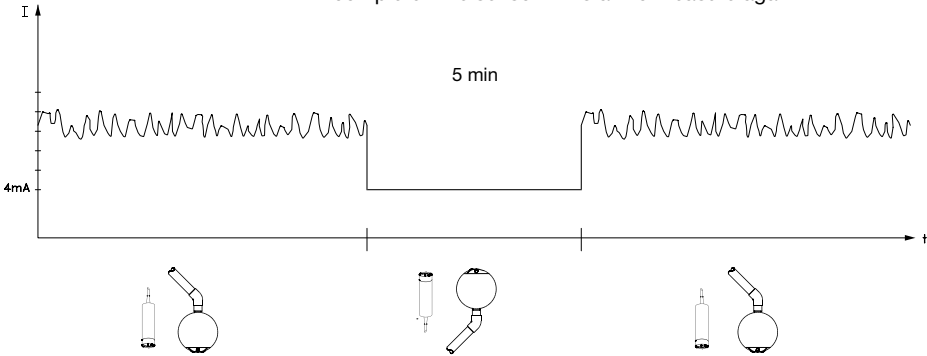

Fig. 15: Changes in the measurement signal before, during and after calibration
- Hold the sensor up in the atmosphere to calibrate (see Fig. 15). The sensor will emit a 4 mA signal throughout this phase and the DULCOMETER® D1C will display “0” ppm. In the calibration menu of the DULCOMETER® D1C (chap. 8) “Calibrating the O₂ sensor up”, the remaining calibration time is counted down.